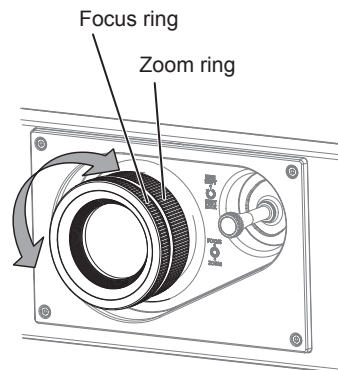

Fig. 2
- 5) Adjust the zoom and the focus. (Fig. 2)